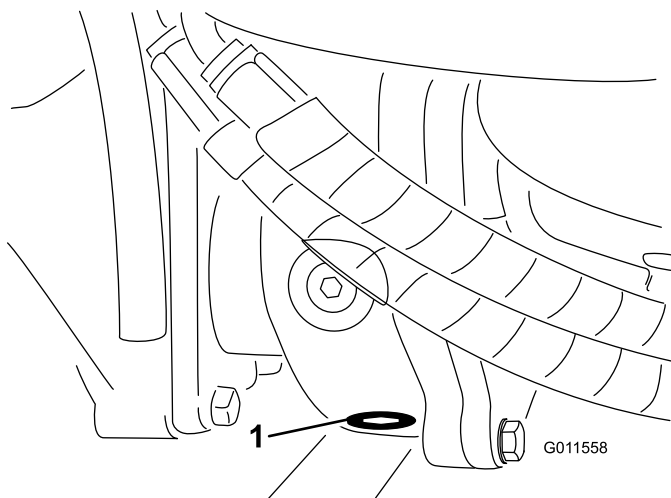

**Figure 108**
2. Clean the area around the 3 drain plugs; 1 on each end and 1 in the center (Figure 108).